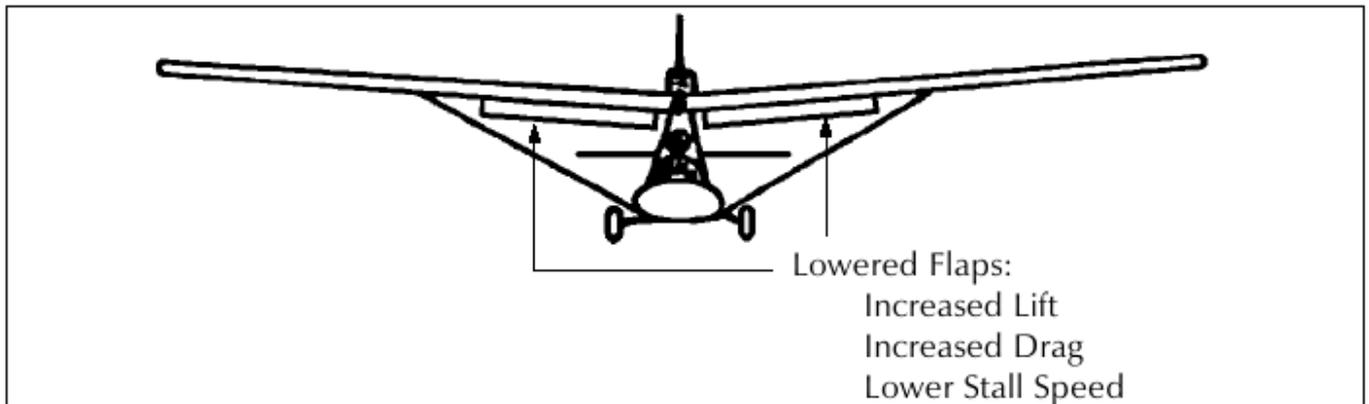

Fig. 18 Effect of Flaps.
- **Flaps:** Flaps are another aerodynamic control surface found on an increasing number of microlights. Flaps work in the same way as ailerons and vary the wing camber, they provide a decrease in landing speed when deployed whilst retaining maximum speed when up. The flaps on each wing are connected so that they can be raised and lowered together (as opposed to ailerons where one goes up while the other goes down). By increasing the effective lift, flaps reduce the stalling speed and enable the microlight to fly at lower airspeeds. Also, by increasing drag flaps enable the aircraft to glide at a steeper angle with no increase in forward speed. See Fig. 18. Microlights utilise flaps either inboard of the ailerons or in combination with the ailerons called Flaperons. Flap use sometimes causes a pitching moment by shifting the wing's centre of pressure. Flaps are normally partially down to shorten the Take-Off roll, and fully down to shorten the approach and landing. There is a maximum speed limit for flap lowering to avoid overstressing the mechanism, refer to your aircraft's handling notes for optimum settings and recommended speeds.